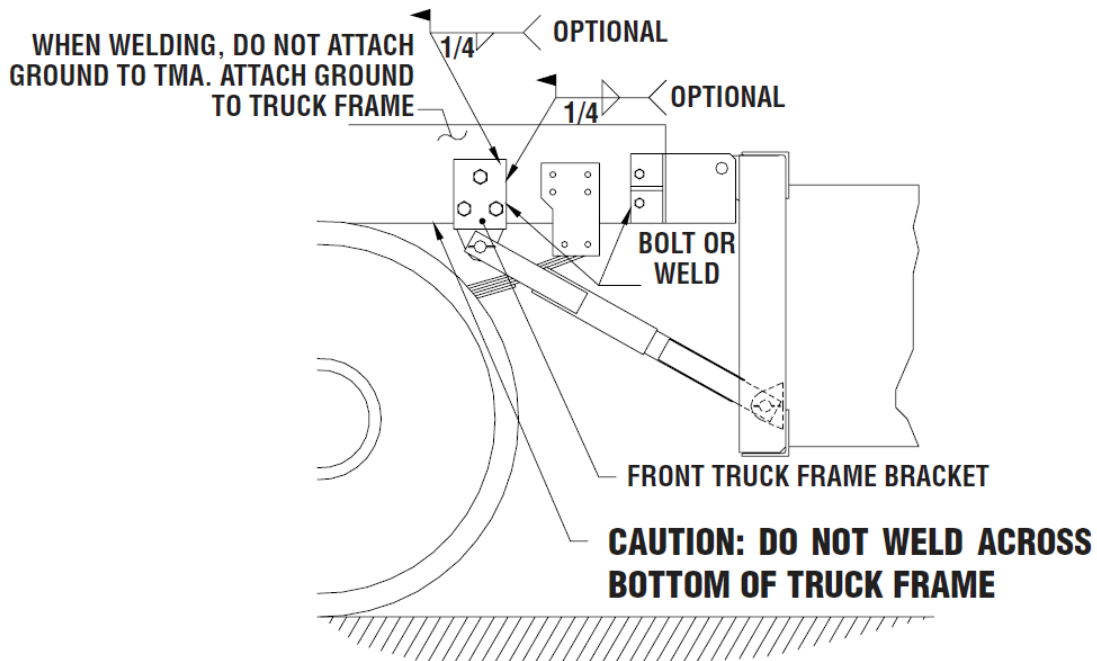
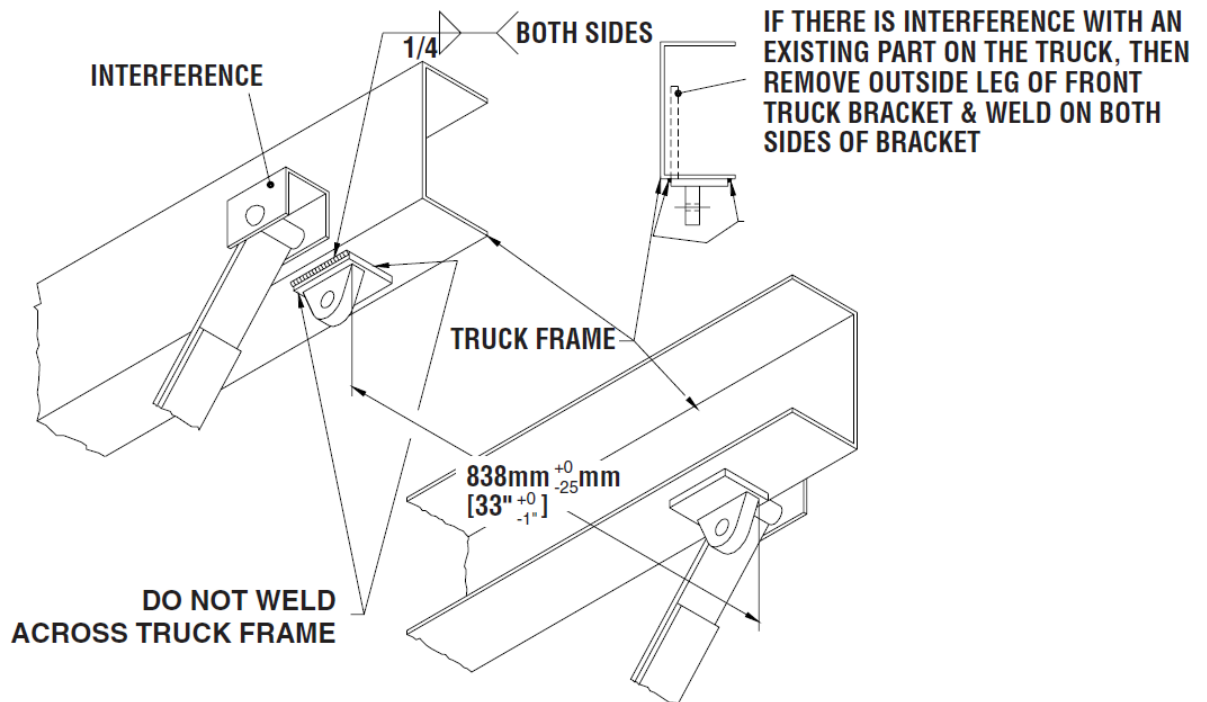

Figure 8
Figure 9
12. As shown in Figure 8, swing the Standard Struts up and position the Front Truck Brackets against the side of the truck frame. This part may be either bolted or welded to the truck frame. If bolting is used, all six (6) bolts must be installed into drilled holes and the bolts torqued to 270 Nm [200 ft.-lbs.]. (Before attempting the bolting method, make sure there is enough clearance between the side of the truck frame and the outboard leaf springs.) If welding is used, it should be done by a qualified welder and should be completed as shown on the detail drawings. Do NOT weld across the bottom of the truck frame. If there is interference between the Front Truck Frame Bracket and some existing part on the truck then the part can be installed as shown in Figure 9.